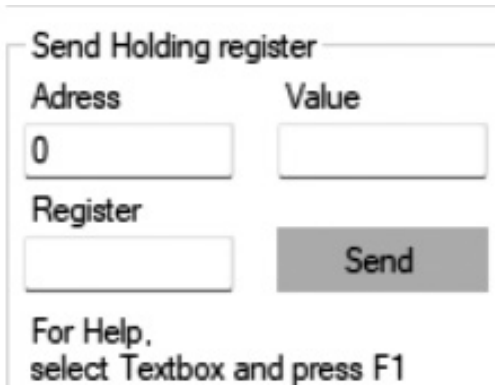

Fig. 10 — Setting Address in “Send Holding Register”
- Set the **Address** to 0 as this tells the software to broadcast the values sent to all fans. (User may also set the **Address** to 1 if addressing a singular fan in the array). See Fig. 10.